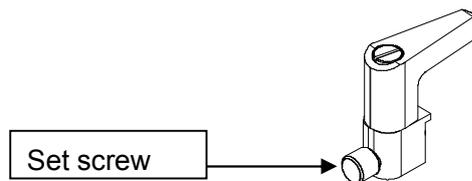

Figure 1.11 Cell retainer for the water jacket cell
- (1) Fix the cell retainer included with the polarimeter using the fixing screw (Fig. 1.11).